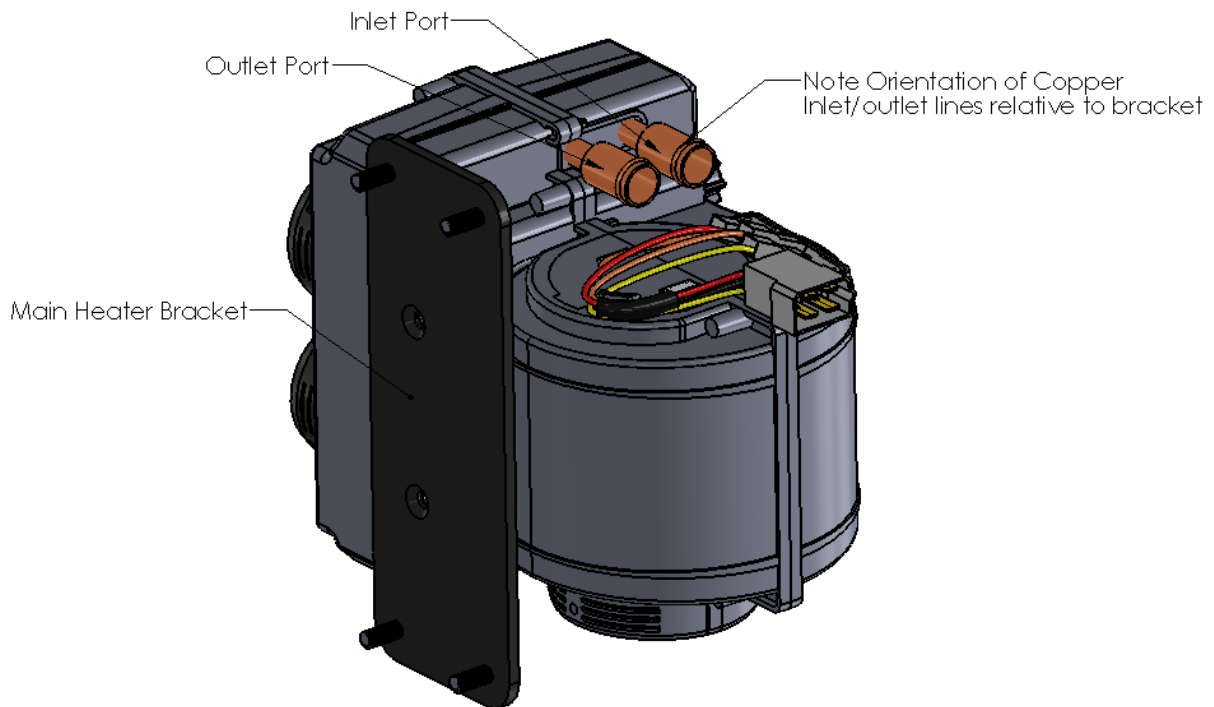

Figure 7
18. Secure the Heater Mounting Bracket to the Heater Unit using (2) two M6-1.0 x 12mm Flat Head Cap Screws as shown in Figure 7.